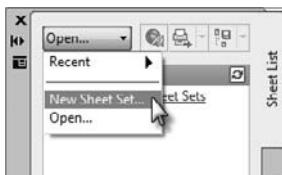

FIGURE 14.29 Creating a sheet set using the Sheet List palette
- With the Sheet Set Manager palette set open, select the drop-down list on the Sheet List palette and select New Sheet Set, as shown in Figure 14.29. The Create Sheet Set dialog box opens.